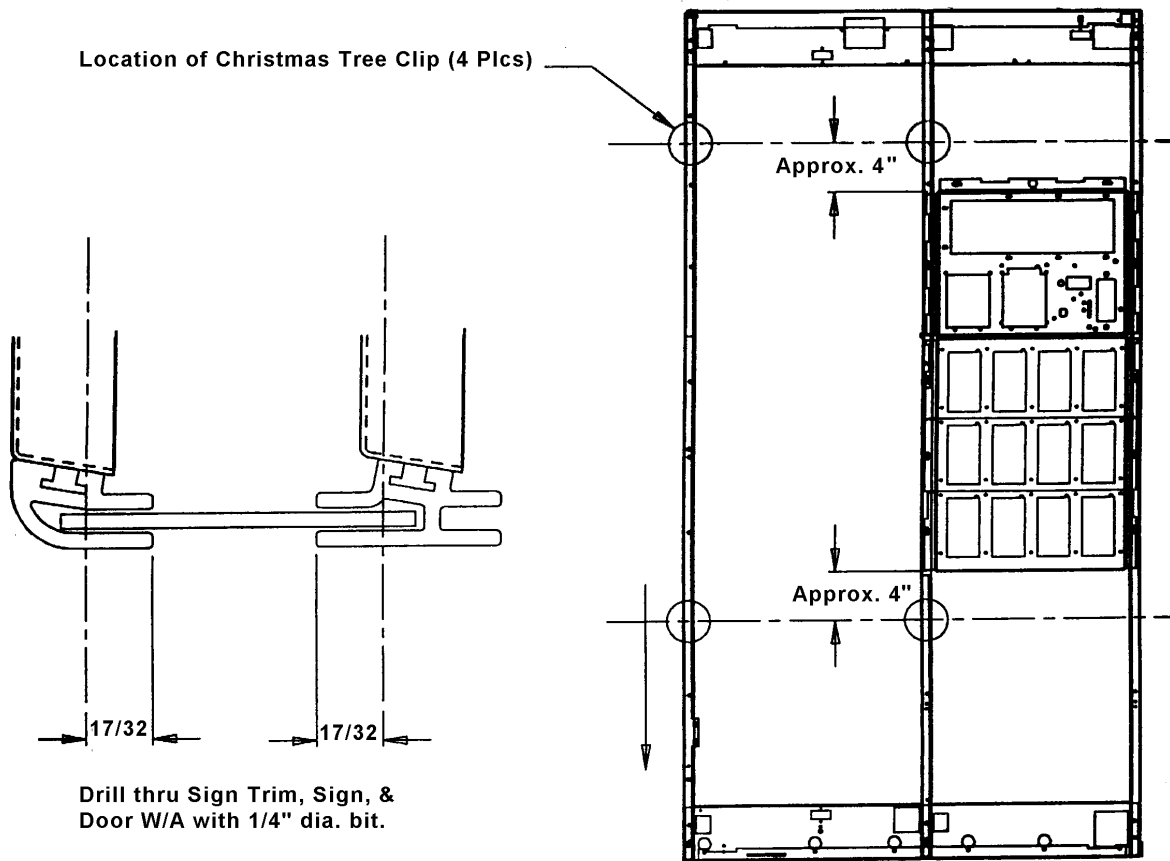

Figure 1
3. Mark the location in the sign trim for all four X-mas tree clips (See Figure 1, page 2).